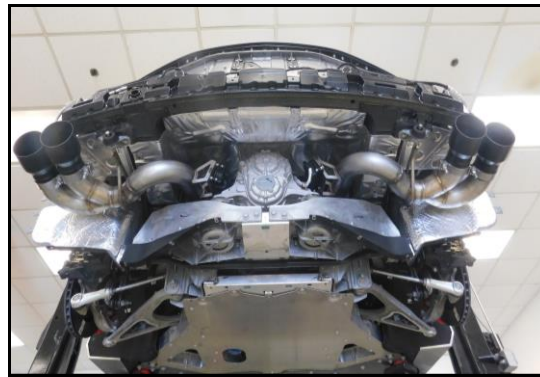

Figure 6
3. Reuse the OE gaskets and hardware, replace if needed. Install the Blackheart cat-back exhaust to the OE catalytic converters. Install the OE rubber isolators to the car. Plug in (x2) connectors to the OE AFM electric exhaust valve actuators. Install (x4) band clamps and (x4) exhaust tips, Tighten the hardware (**Figure 6**).